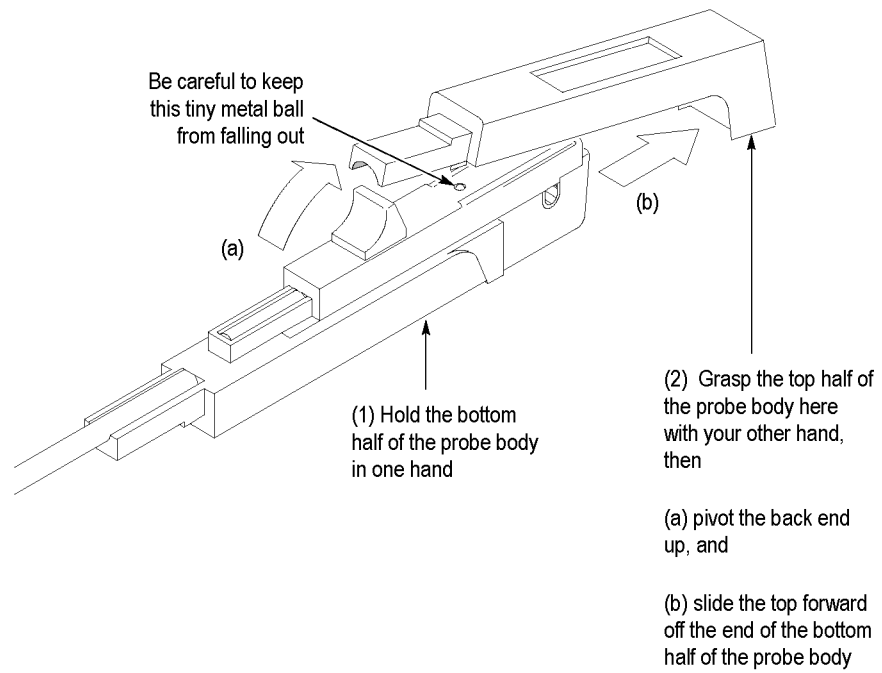

Figure 30: Removing the top half of the probe
3. Hold the probe in a top-up horizontal position and slide the top half of the probe body off as shown. (See Figure 30 on page 74.)